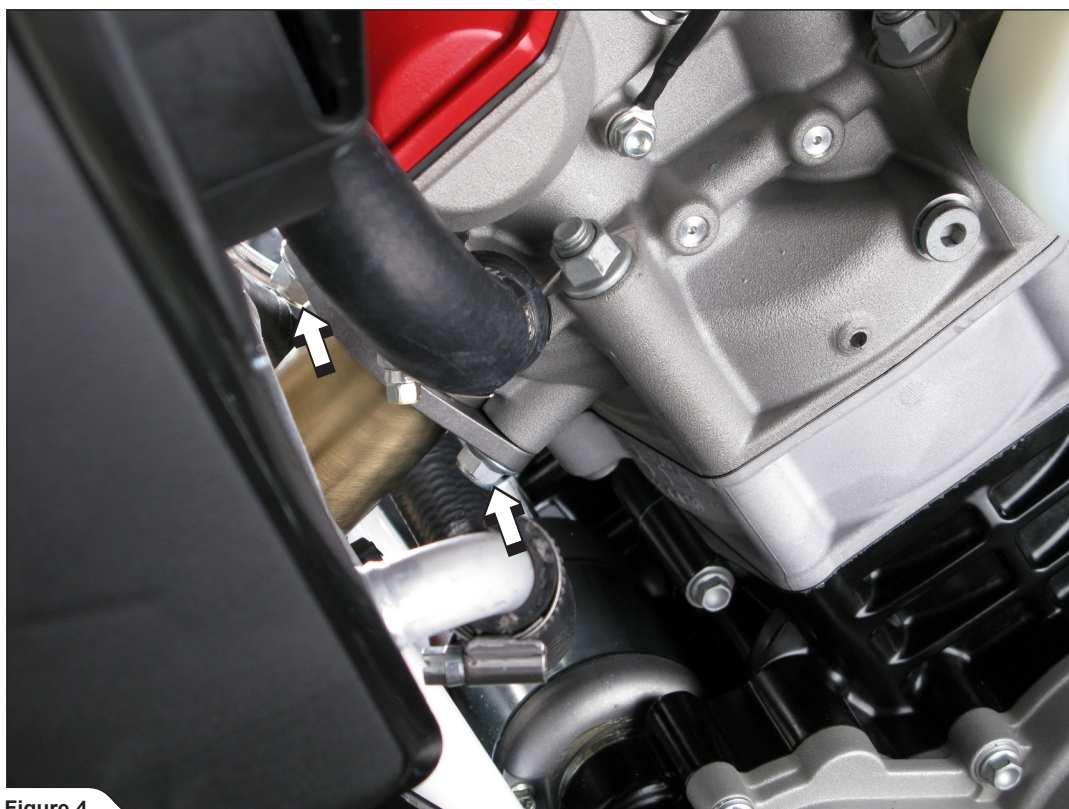

Figure 4
5. Unscrew the marked flange nuts and remove the header tube off the motorcycle (**Figure 4**).